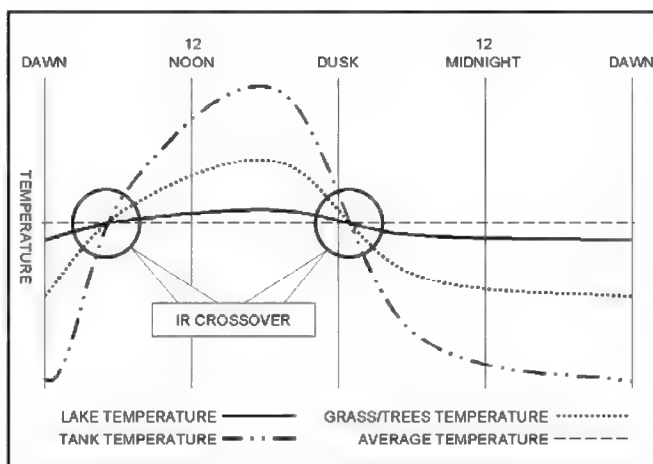

Figure E-12. Crossover periods.
(3) **Infrared Cross Over.** Twice a day, around dawn and dusk, the temperatures of the tank, grass, and trees cross over from being hotter than the river to being cooler (Figure E-12). These two periods are known as *IR cross over* because of the change in the temperature relationships and the visual effect that it produces. During these two periods, everything in the target scene is about the same temperature, which means there are few, if any measurable ΔT 's. As shown earlier, when there is no measurable ΔT , the gunner cannot distinguish a target from its background.